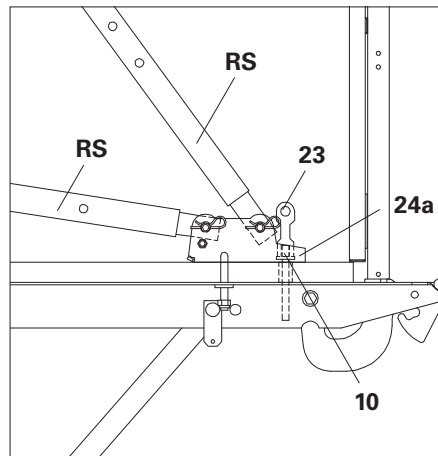

Fig. B2.03a
1. Bolt Base Plate for RS 210-1400 (24a) in the rear Multi-Purpose Connector (10) with Push-Pull Prop Bolts FB (23).
2. Secure Push-Pull Prop RS and Kicker RS with bolt and cotter pin. (Fig. B2.03a)